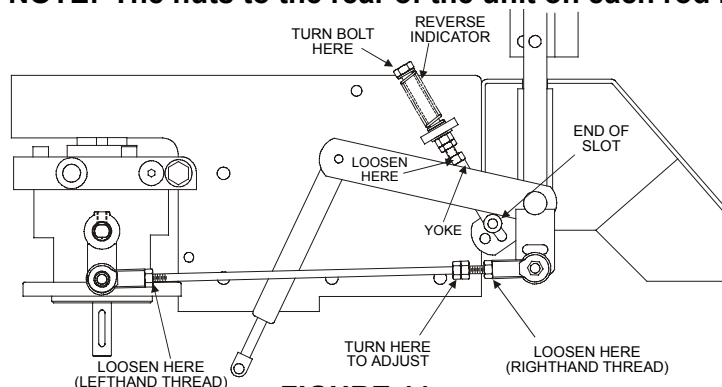

FIGURE 11
- c) Begin with either the left or right motion control lever. Move lever to the neutral position and pull lever back until the clevis pin (on arm below pivot shaft) contacts the end of the slot (just beginning to put pressure on spring), See Figure 11.
- Loosen lock nuts from the ball joints at each end of the RH pump control linkage (See Figure 11).
- h) Bring the RH motion control lever into the neutral position. Adjust RH pump control rod length by rotating the double nuts on the rod in the appropriate direction until the wheels slightly creep in reverse. (See Figure 11). Move the motion control lever to the reverse position and while applying slight pressure to the lever, allow the reverse indicator spring to bring the levers back to neutral. The wheel must stop turning or slightly creep in reverse.